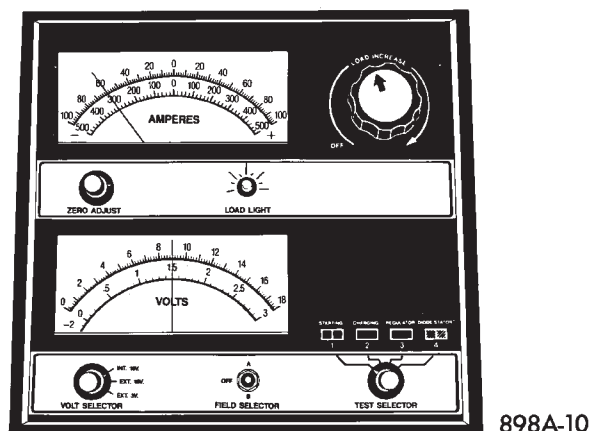
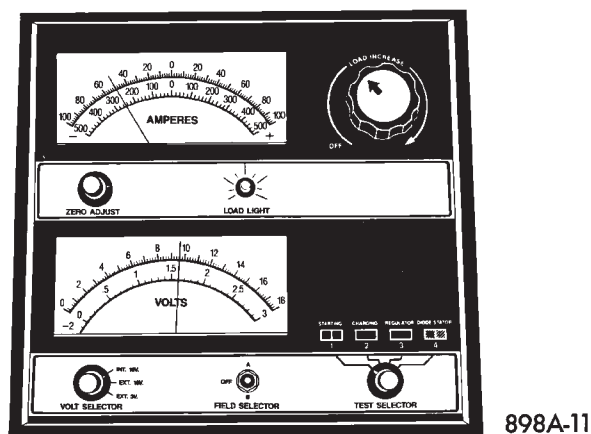

Fig. 7 Remove Surface Charge from Battery
Fig. 8 Load 50% CCA Rating - Note Voltage
(3) Rotate the load control knob (carbon pile rheostat) to apply a 300 ampere load to the battery for 15 seconds, then return the control knob to the Off position (Fig. 7). This will remove the surface charge from the battery.
(4) Allow the battery to stabilize to open-circuit voltage. It may take up to five minutes for the battery voltage to stabilize.
(5) Rotate the load control knob to maintain a load equal to 50% of the battery's CCA rating (Fig. 8). After 15 seconds, record the loaded voltage reading, then return the load control knob to the Off position.
(6) The voltage drop will vary with the battery temperature at the time of the load test. The battery temperature can be estimated by using the ambient temperature during the past several hours. If the battery has been charged, boosted, or loaded a few minutes prior to the test, the battery will be some-